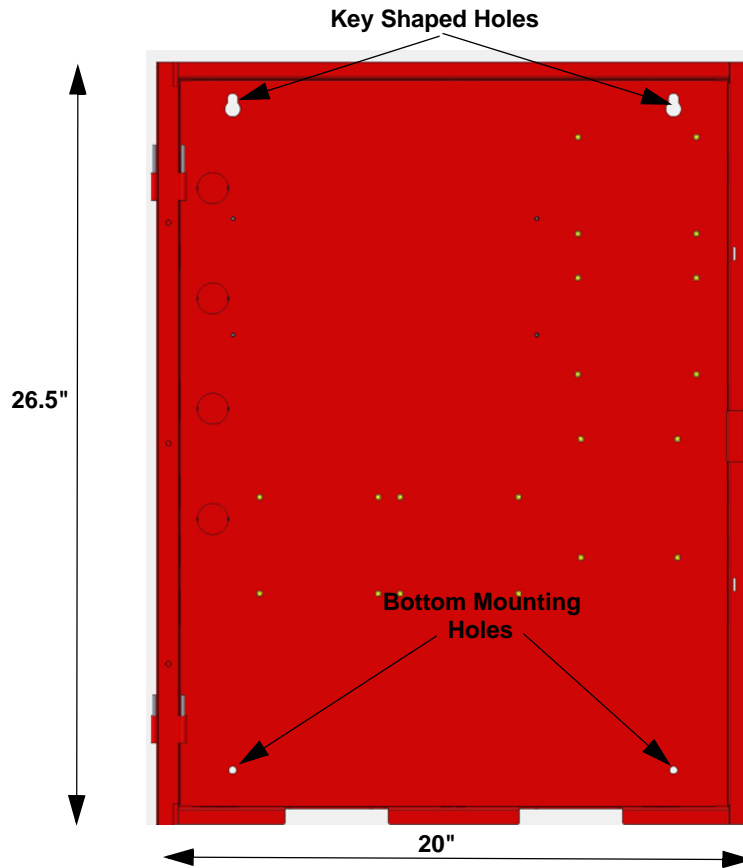

Figure 3.3 6820EVS or EVS-LOC Cabinet Mounting Holes
3. Mark and predrill holes in the wall for the center top keyhole mounting bolts using the dimensions in Figure 3.3 on page 9.